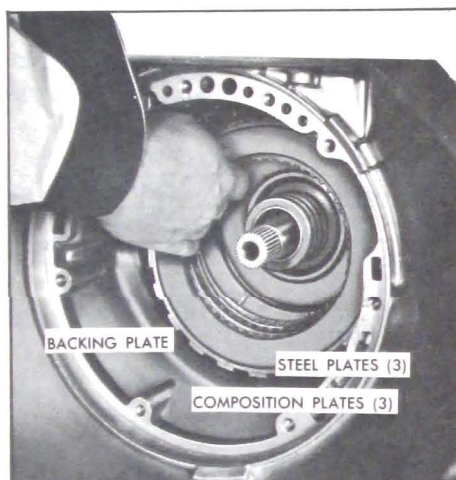

Figure 5-716
12. Install three (3) steel and three (3) composition intermediate clutch plates. Start with steel, alternate the plates. See Figure 5-716.